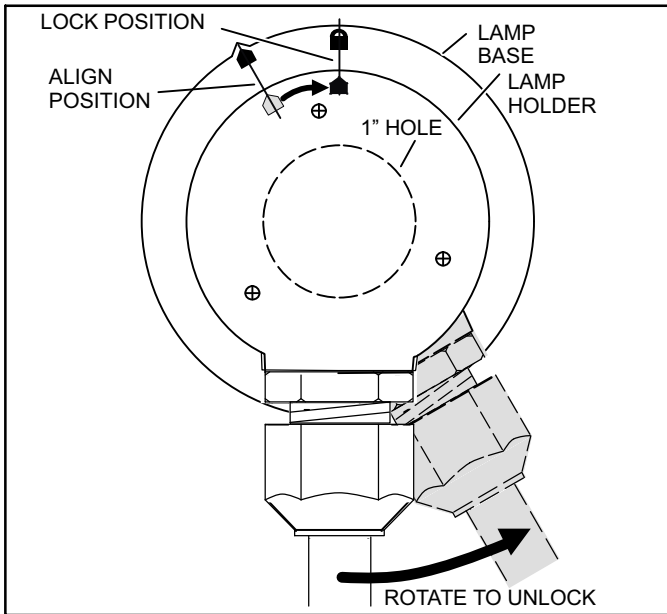

Figure 2. Removing the lamp holder assembly
3. Unlock the lamp holder as shown in figure 2. Set the lamp holder and lamp aside.